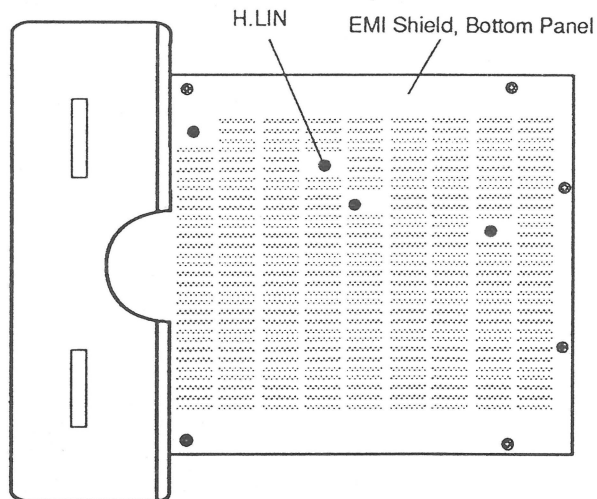

FIGURE 10
6. Using the hex alignment tool, turn the horizontal linearity (H.LIN) control (**Figure 10**) until the boxes at the left of the display are the same size as those at the right. (With the monitor on its side, keep in mind that the left and right sides of the display are on the top and bottom.)